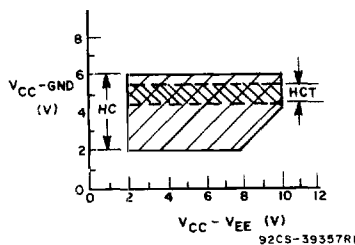

Fig. 2
In addition these devices contain logic-level translation circuits that provide for analog signal switching of voltages between ± 5 V via 5 V logic. Each switch is turned on by a high-level voltage on its select input (S) when the common Enable (E) is Low. A High E disables all switches. The digital inputs can swing between V_{CC} and Gnd; the analog inputs/outputs can swing between V_{CC} as a positive limit and V_{EE} as a negative limit. Voltage ranges are shown in Figs. 2 and 3.
CD54/74HC Types, CD54/74HCT Types, See Fig. 2